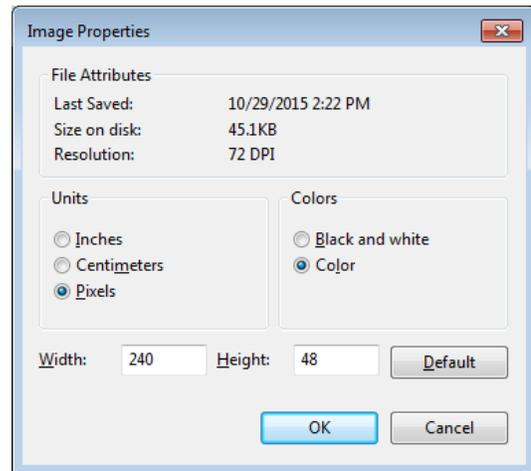

Figure 6: Bitmap Properties
- Bitmap File (.bmp) created using the parameters shown in **Figure 6**